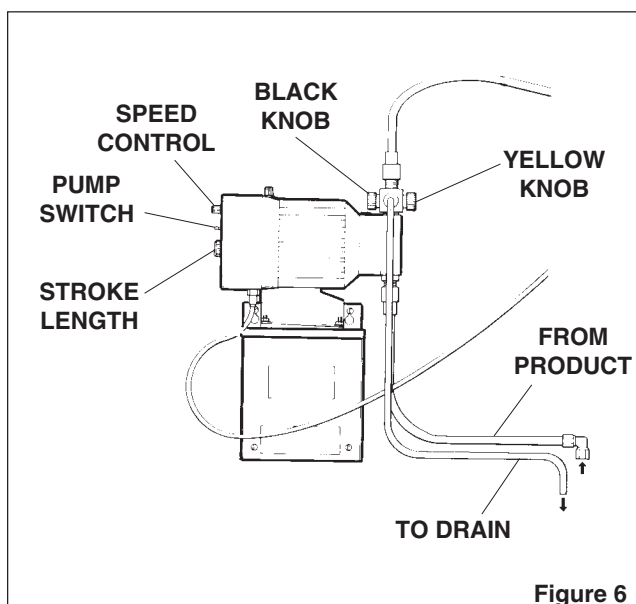

Figure 6
6. Place the pump switch in the INTERNAL position. As the pump is running, set the stroke length knob at 60% (all dosage ratio calculations are based on 60% stroke length), *refer to Figure 6.*